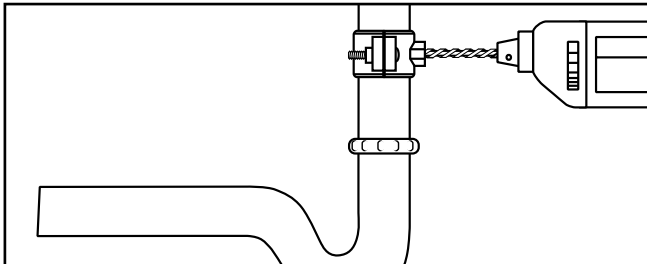

Figure 11
2. Using the fitting hole of the drain clamp as a guide, drill a 1/4-inch hole through one side of the drain pipe (Figure 11).